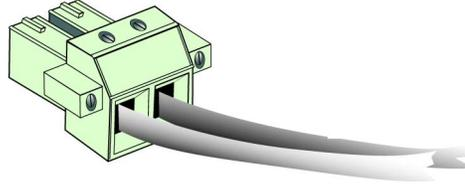

Figure 2-5. DC Power Connector with Wires
- c** Connect a (minimum) 14 AWG two-wire input cable to the green two-pin power connector (that is, the power plug). Make sure you connect the correct wire to each post. Figure 2-5 shows the plug with the cables attached.